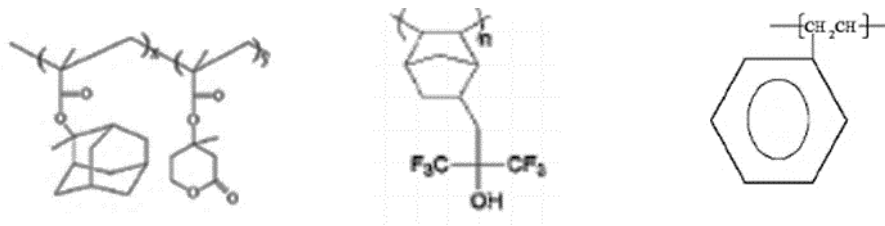

Figure 3/Rajah 3
- (b). Three (3) types of polymer photoresists are given as in Figure 3 below. Assign the possible wavelength technology of 157 nm, 193 nm and 248 nm for each of the structures. Explain your choice.
*Tiga (3) jenis polimer fotoresist diberi seperti dalam Rajah 3. Padankan teknologi jarak gelombang 157 nm, 193 nm dan 248 nm bagi setiap struktur ini. Jelaskan pilihan anda.*